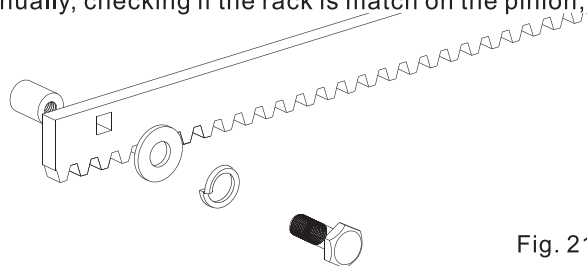

Fig. 21
6.8.1. Steel rack to be screwed (Fig. 21):